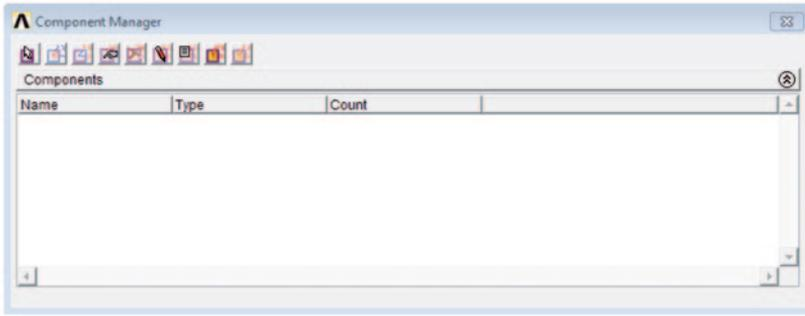

Fig. 8.32 *Component Manager* dialog box (*left-most button* is used for creating components)
- *Component Manager* dialog box appears (Fig. 8.32); click on the first button on the left (**Create Component** button).